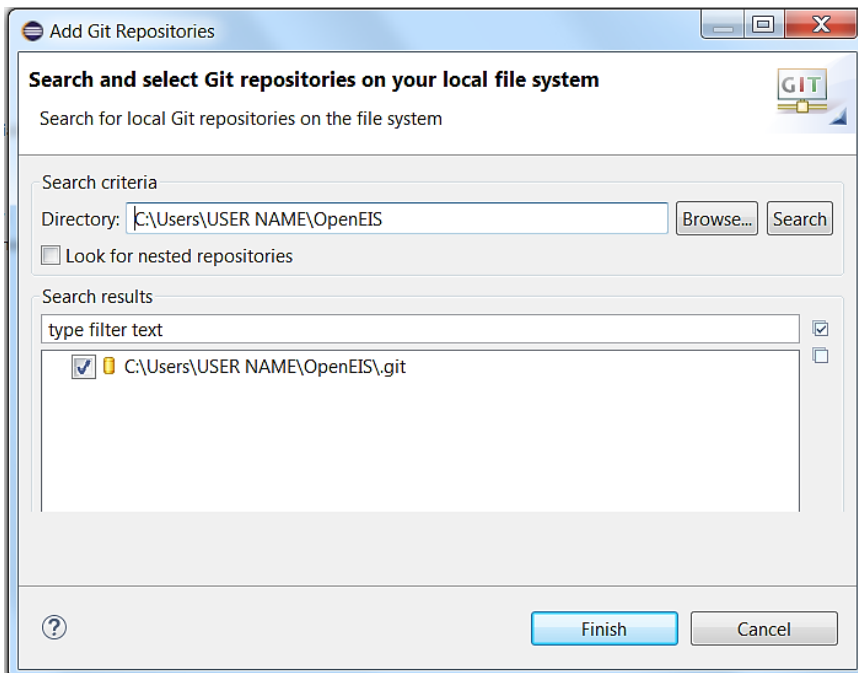

Figure 16: Importing OpenEIS with Eclipse from Local Source (continued)
5. Select Browse -> navigate to the top-level OpenEIS directory and select OK -> select Finish (Figure 16)